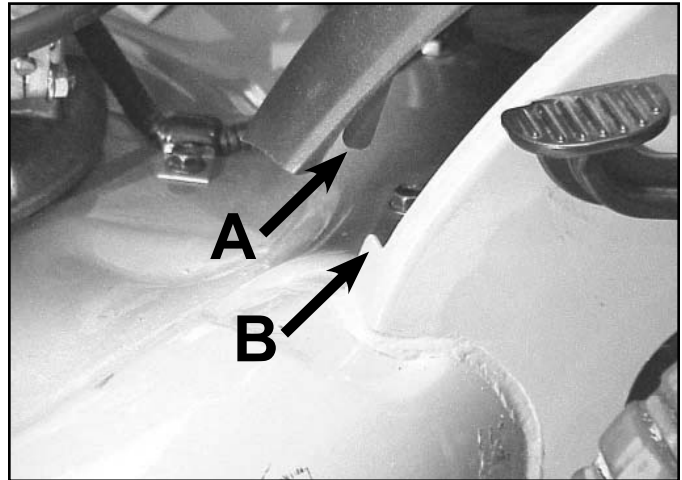

Fig 113
7. When installing the rear cover, note the bosses on the back side of the cover. They must go behind the notch in the chassis to secure the cover. The top of the cover is retained with screws (Fig. 113).